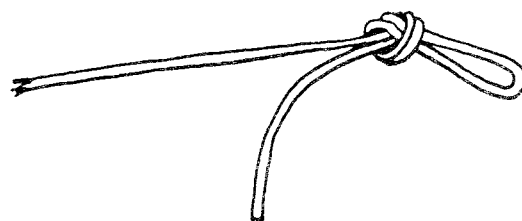
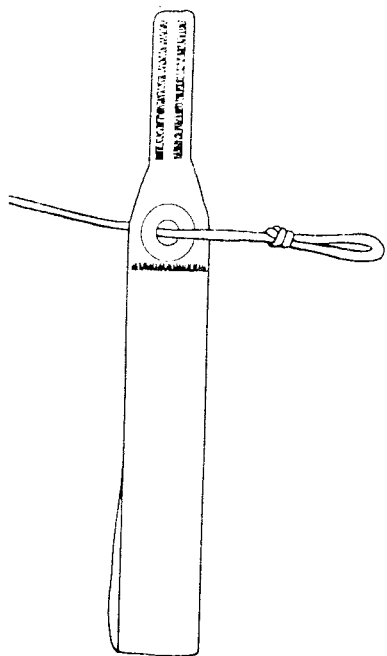
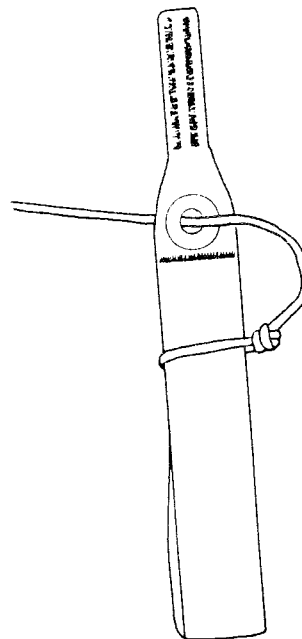

FIG. 1
FIG. 2
FIG. 3
4) When the suspension lines have been stowed on the full diaper, there should be about 8" to 12" of lines unstowed between the diaper and the connector links. Bring the diaper up over the upper end of the reserve pack tray and lay the risers into the reserve container so that they lie flat with no twists. Now position the diaper in the lower left corner of the reserve container, and if the diaper does not fill the bottom of the container from side to side, make a small fold with the canopy in the lower right corner to equalize the bulk as shown in FIG. 2.
5) Continuing with the canopy, make a fold up and down the right side of the reserve container as shown in FIG. 3, and then lay a fold of canopy across the bottom of the container.
Double the control line back on itself below this mark and tie an overhand knot as shown in FIG. 1. The loop should be approximately 1" long, and the mark should be on the canopy side of the knot when it is tightened. Cut the remainder of the control line to a length of approximately 8" (with scissors, *not* a hot knife), and fingertrap the end into the control line. Do not sew the fingertrapped part. Now pass the knotted end of the control line thru the grommet in the toggle as shown in FIG. 2, and then put the lower end of the toggle thru the loop as shown in FIG. 3. Tighten the loop on the toggle as close to the grommet as possible. (The control line should exit the grommet on the velcro side.)